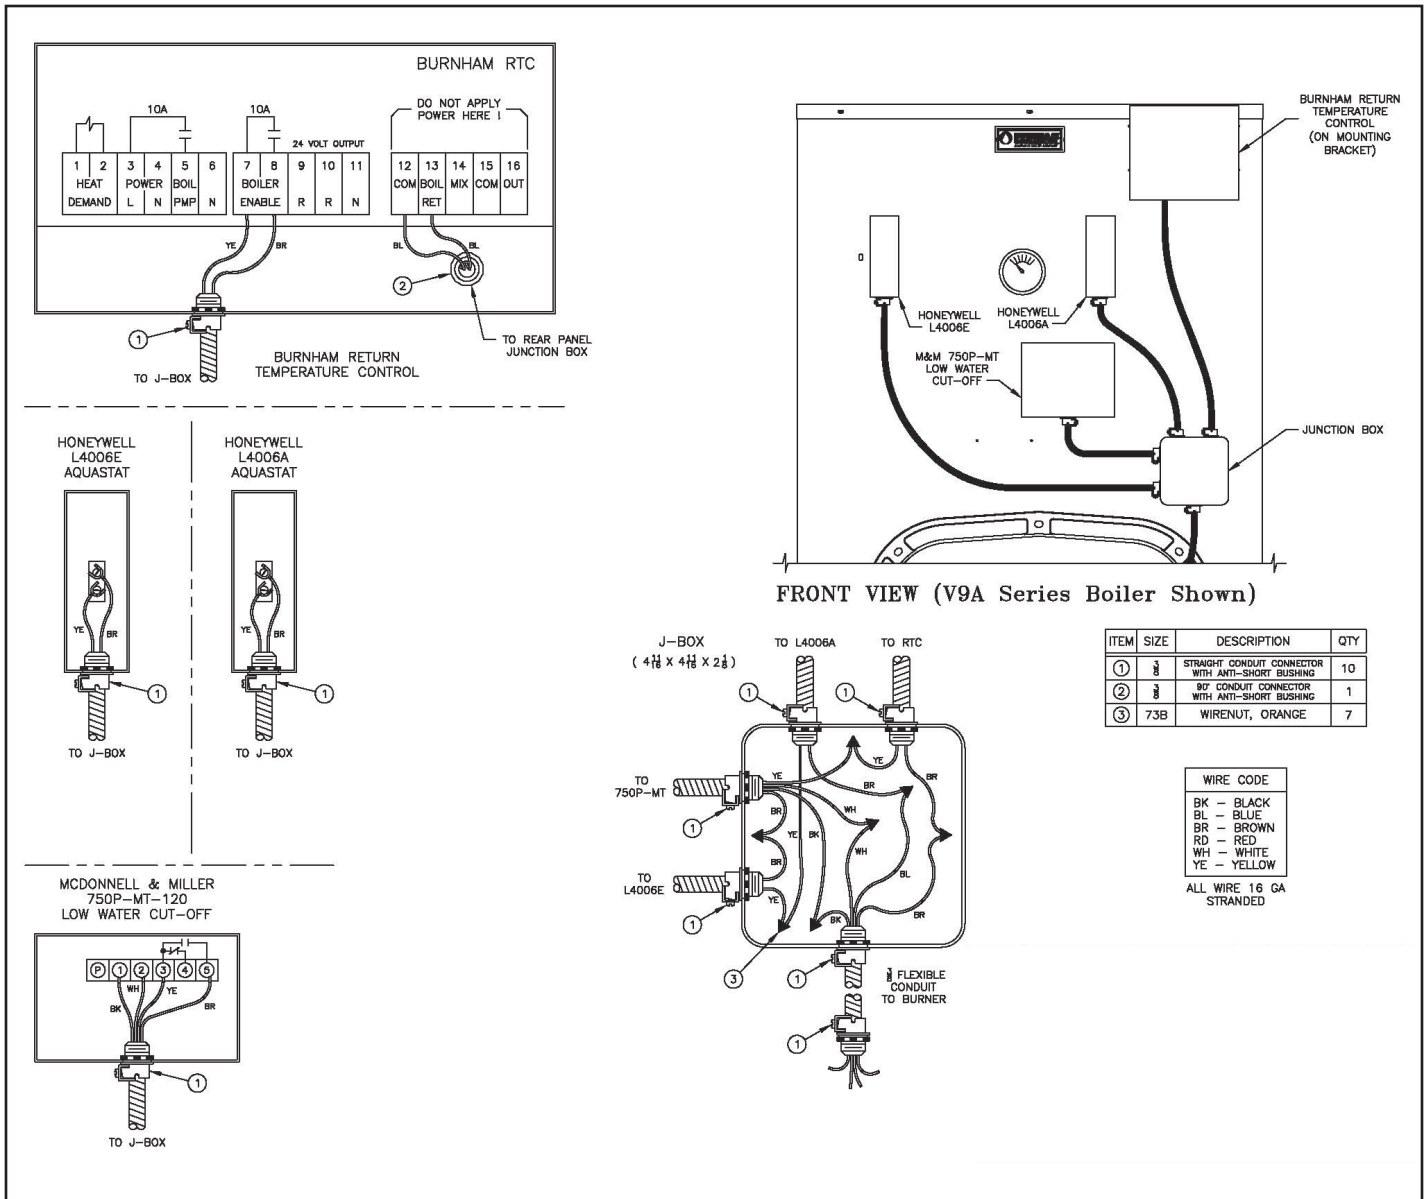

Figure 1: Typical Boiler Wiring With RTC (Front)
A. Return Temperature Control (RTC) – Mount the control to the boiler front jacket panel at the top right. See Figures 1 and 2 for general component placement. The RTC mounting bracket must be attached to the jacket first, using four (4) #8 x 3/4" drill point sheet metal screws. Before attaching the RTC to the mounting bracket, remove the controller from the control base/wiring chamber by pressing the tab on the base and pulling the controller up and off. (This is to prevent accidental damage to the controller during the mounting process.) One may find it easier to install some of the conduit connectors, along with their corresponding conduit runs, onto the RTC control base/wiring chamber before mounting it to the bracket. Before choosing which wiring knockouts to use, read Step Four. Mount the control base/wiring chamber to the bracket using the four (4) #8-32 x 1/2" Phillips pan head screws supplied with the RTC. Then reattach the RTC controller to the control base.